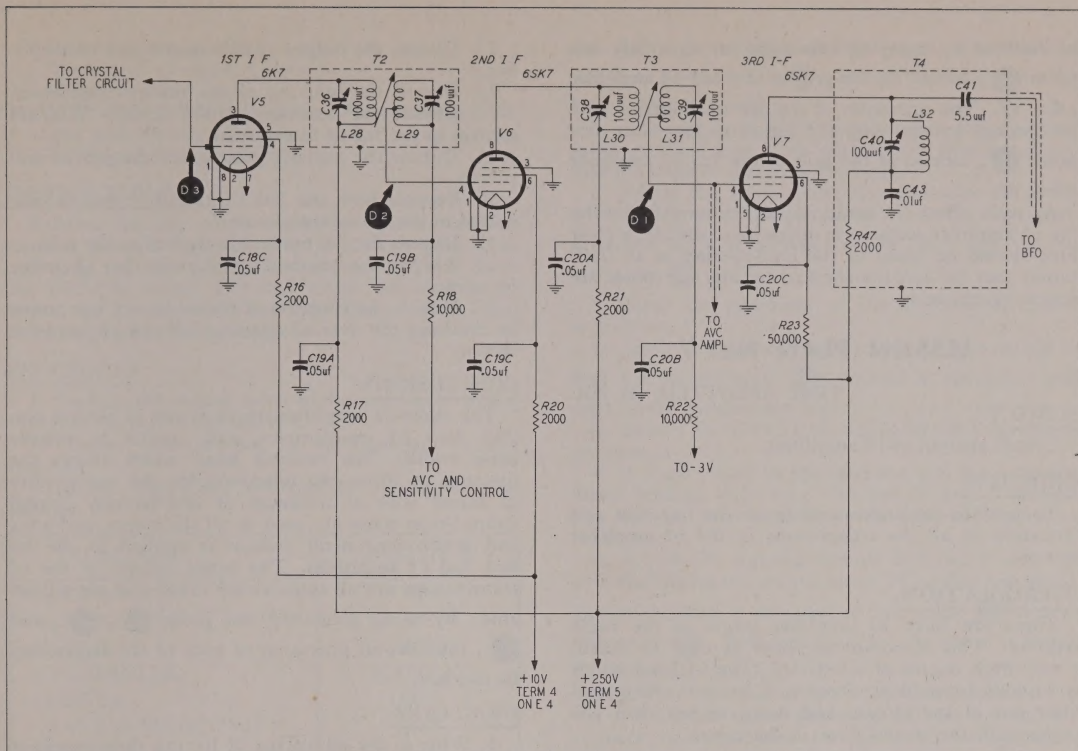

Figure 16. I-F Amplifier Circuits
To provide a greater degree of selectivity with the required gain, three stages of intermediate-frequency amplification are used in the receiver, as shown in the simplified schematic diagram in figure 16. Special transformers are employed to maintain a high degree of stability, and to make it possible to vary the band width of the i-f section. The band width is controlled by a cam arrangement which varies the coupling in two of the i-f transformers, and is variable from 16 kc. down to 3 kc. with the crystal filter out of the circuit. With the crystal filter in the circuit, the bandwidth is variable down to less than 100 cycles.
3. Draw figure 16 on the blackboard.